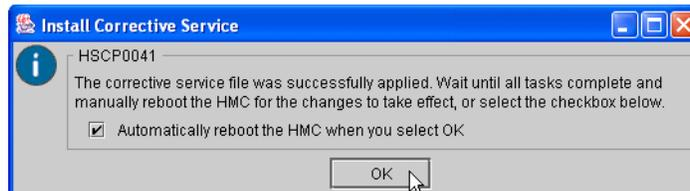

Figure 14-11 HMC Install Corrective Service completion message
6. When the installation of the first HMC update package has completed, you will receive a completion message (Figure 14-11)